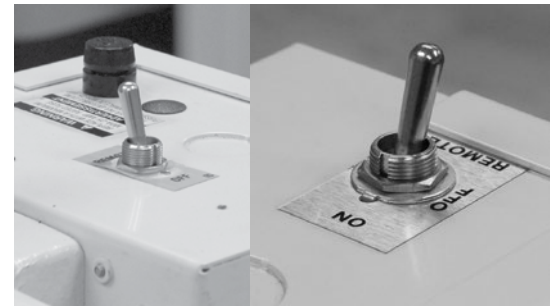

Fig. 3. Motor Control Switches
- B. Place the motor control switch in the ON position or the REMOTE position, if applicable. Refer figure 3.